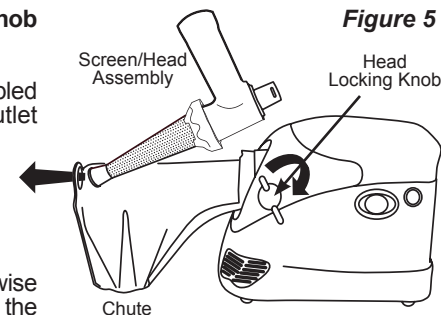

Figure 5
9. Turn the **Head Locking Knob** counterclockwise to loosen (figure 5).
10. Insert the **Screen** end of the fully-assembled **Screen/Head Assembly** through the outlet end of the **Chute** (figure 5).